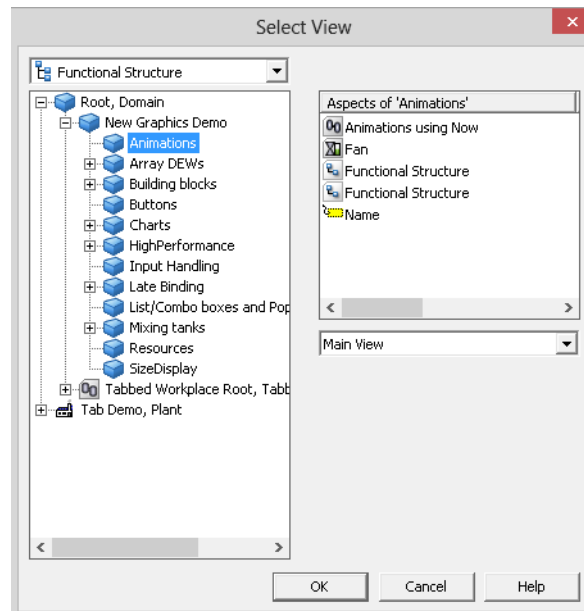

Figure 81. Select View to a Group Display Aspect
3. Click **Add** to add an aspect view. The Select View dialog box will be displayed. See Figure 81.
4. Select wanted structure, object, aspect and aspect view, see Figure 81.